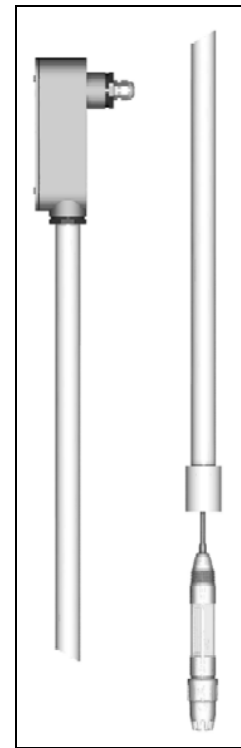

FIGURE 2-6
1. Refer to Figure 2-6 and apply Teflon tape to the 1-inch x 1-inch coupling and pH^D™ sensor threads at the cable end to avoid leaks. (Pipe sealant with Teflon, Loctite No. 59321 or equivalent, may not provide adequate sealing at higher solution temperatures.)